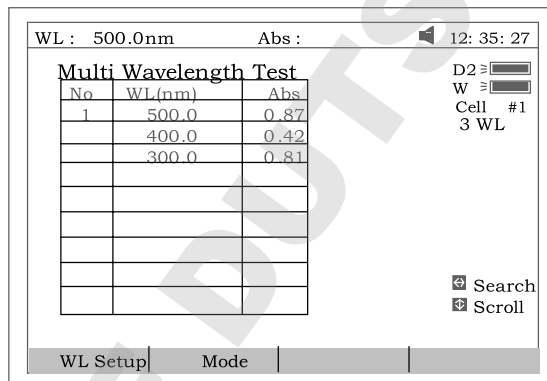

Fig 70
4. Pull the sample cuvette into the light path, press **【START/STOP】** to test. The test results will be displayed on the screen (Fig 70).